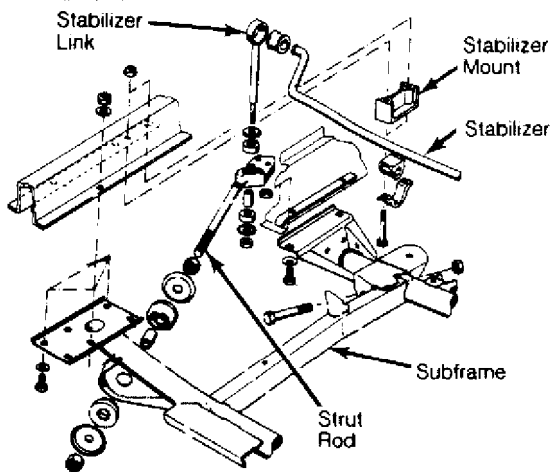

Fig. 2: Identifying Subframe Components
1) Remove strut rods from chassis mount. Remove stabilizer mount from strut rod. Remove lower control arm inner bolt. Remove final drive support from subframe. See Fig. 2.